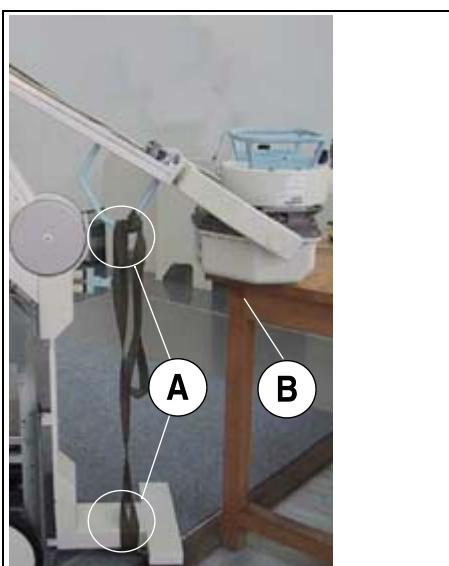

Fig. 84: Single-tank service position
- Use a rope or tightening belt to secure the system support arm against lifting (A/Fig. 84 / p. 88).
- Use a rope or tightening belt to secure the system support arm against lifting. The single tank should rest securely on a table or the like (A/Fig. 84 / p. 88).